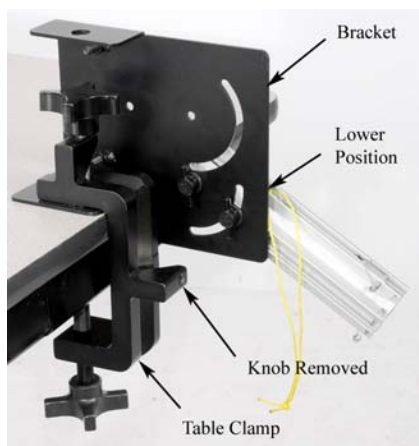

Figure 2: Projectile Launcher
1. The launcher is mounted on the bracket in the lower position (see Fig. 2). Slide the launcher all the way back so that it pivots about the launch position of the ball.
2. Fasten the launcher to the table using the Table Clamp. It is easier to adjust the launcher angle if you remove the knob as shown in Figure 2.